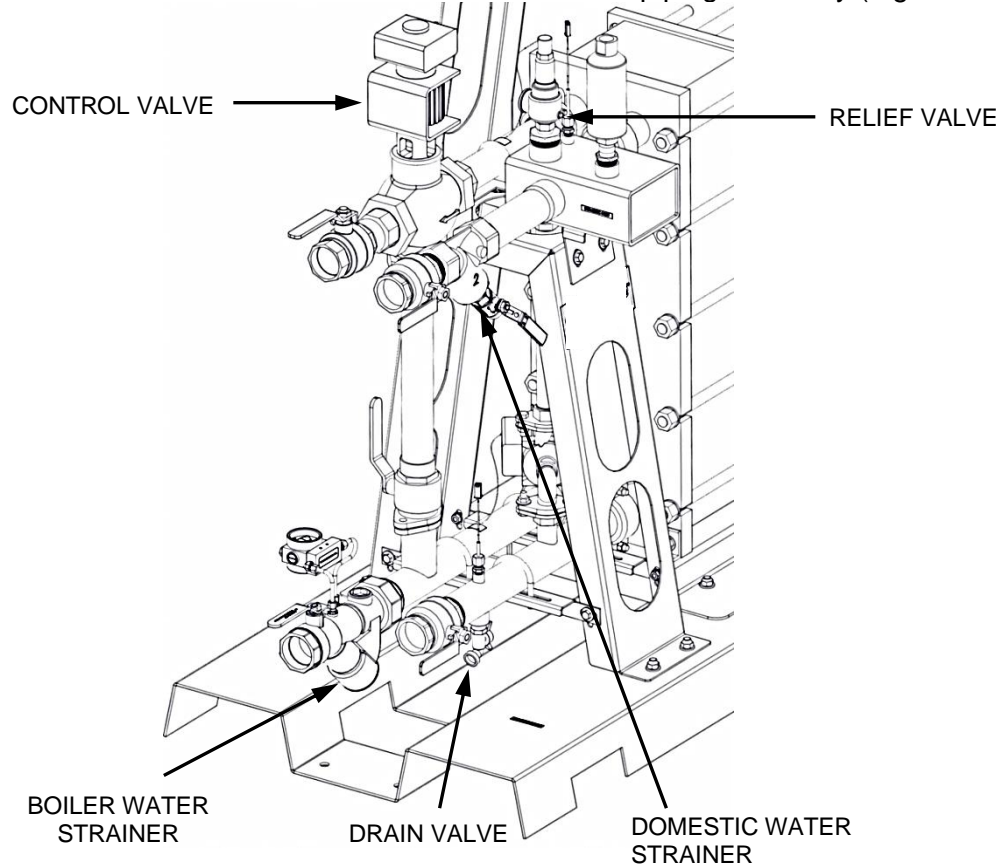

Figure 8-6. Draining the SmartPlate Double-Wall Water Heater
3. Connect a hose to the Strainer on Boiler Water side of the piping assembly (Figure 8-6).